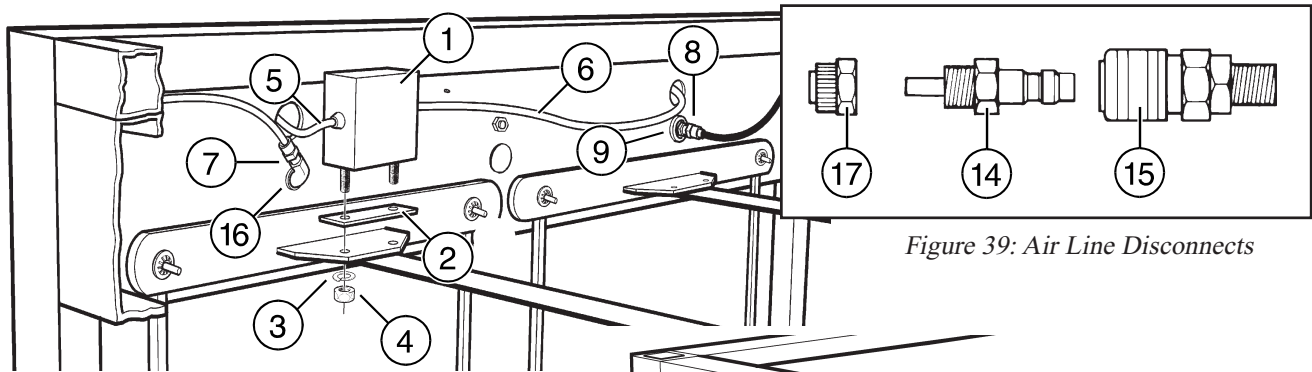

Figure 36: Installing the Turn Switch Box Assembly
Step 33: Install the turn switch box assembly (Item 1) onto the turner shaft assembly using Items 2, 3 and 4. Insert the cord assemblies (Items 5 and 6) through the holes in the front bearing panel. Secure the cables with Items 11, 12 and 13. The end of the molded plug of the cord assembly (Item 6) should extend 15" (38 cm.) beyond the strain relief bushing (Item 13). The end of Item 5 should extend 17" (43 cm.) beyond the strain relief bushing. Route the cord assemblies and air lines so they do not interfere with any moving part. See Figure 36.